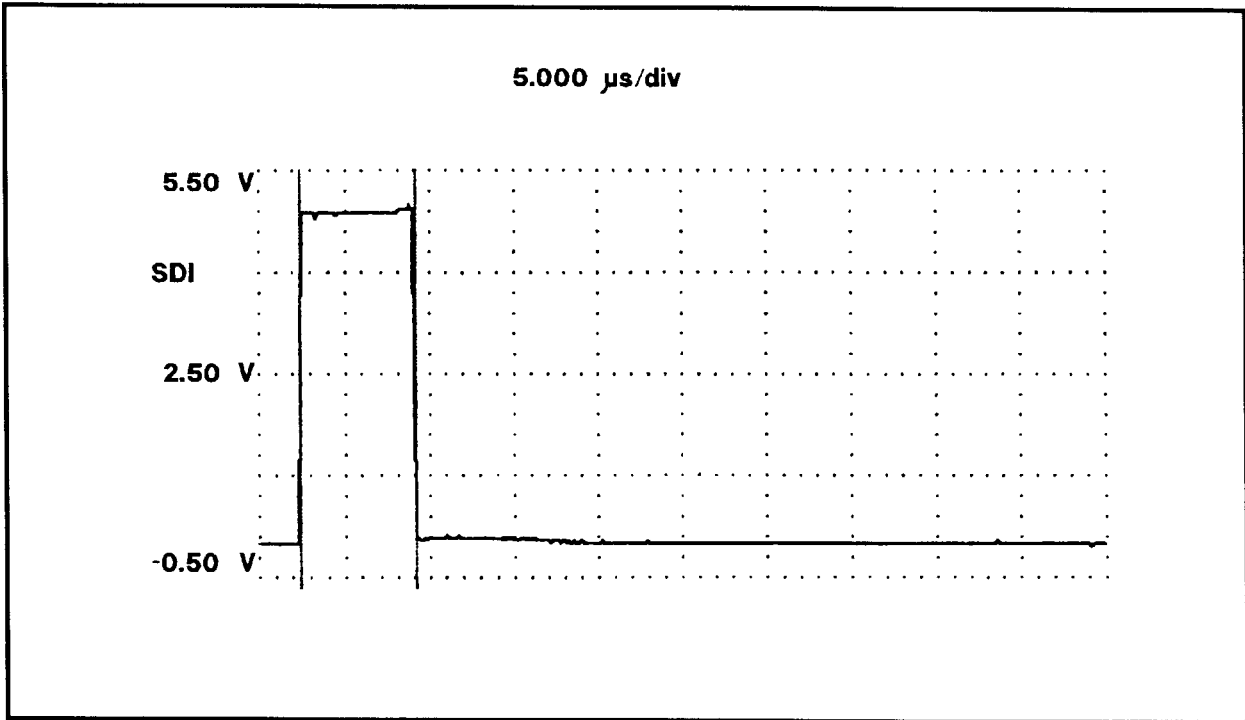

Figure 3-30. TEST 2 or COMMON 2 Scanner PCB SDI Waveform.
12. While running the Relay Check utility, observe the TEST 2 Scanner PCB SDI (Serial Data In) at U2-pin 2 and compare it to Figure 3-30. If different, then troubleshoot U1 for possible fault.